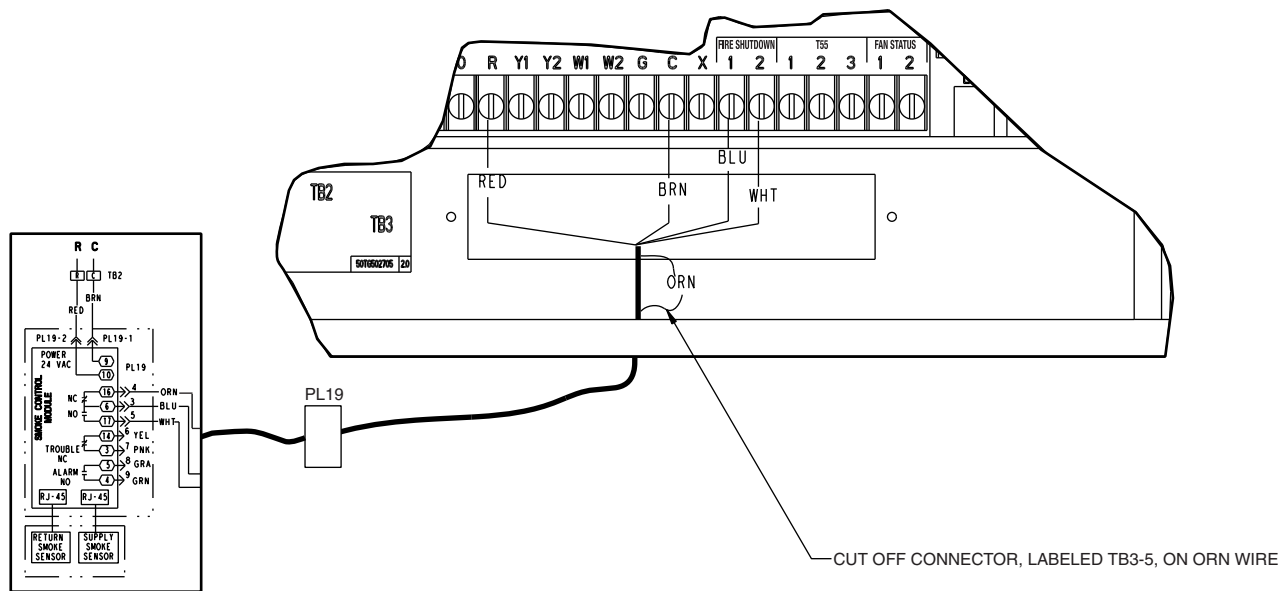
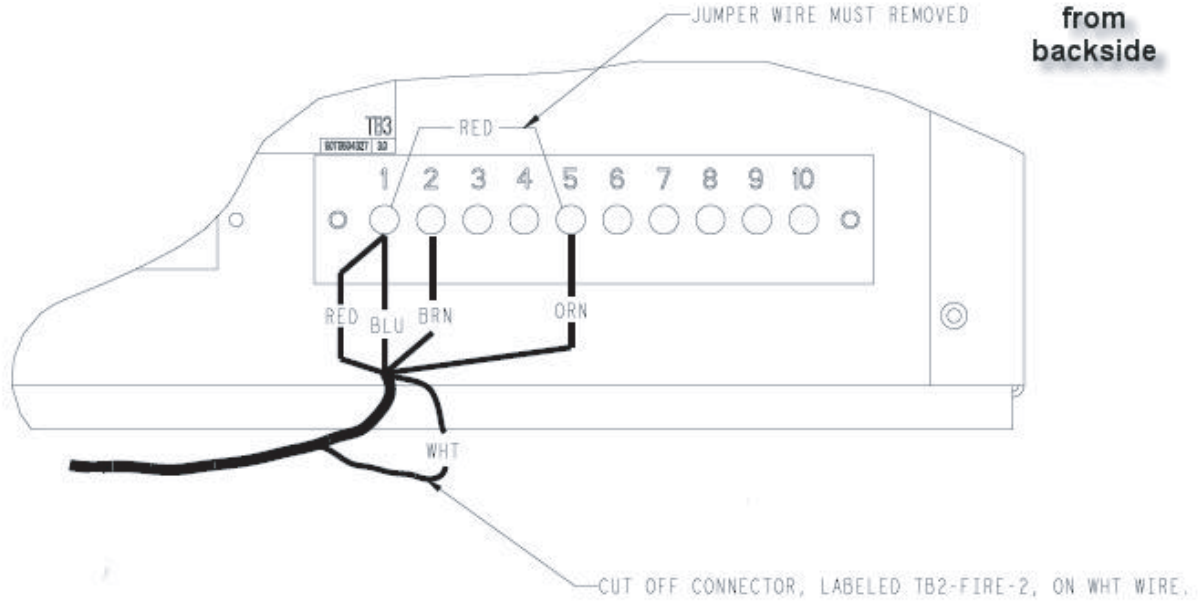

Fig. 6 – Return and Supply Air Smoke Detector Wiring on *ComfortLink* Units
Fig. 7 – Smoke Detector Wiring on Electro-Mechanical Control Units
15. Feed wires through snap bushing and connect to appropriate terminals as shown in Fig. 6 for *ComfortLink*™ units or Fig. 7 for Electro-Mechanical units.
16. Connect wires to terminal strips as shown in Fig. 6 for *ComfortLink*™ units or Fig. 7 for Electro-Mechanical Units.